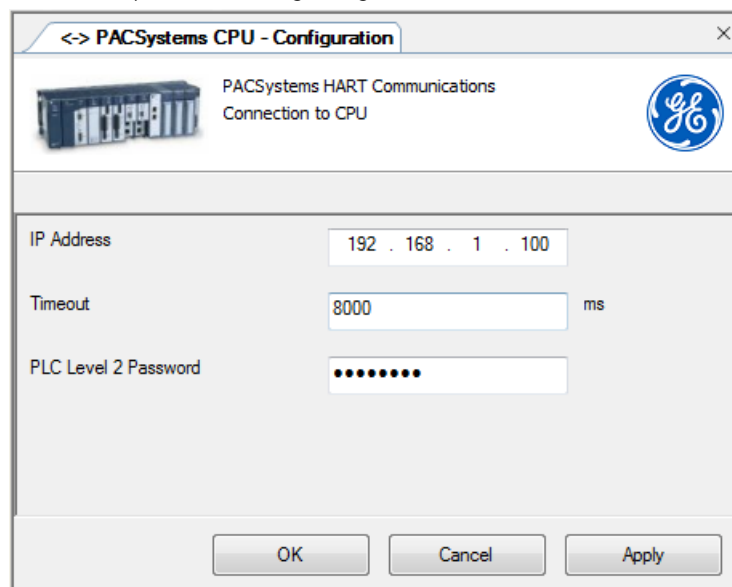

Figure 7: Configuring HART Communications between PC and PLC
3. Configure the DTM by selecting the instance from the *project*. Initially, it displays with the default name of *tag\_not\_available*. Select *Configuration* or *Parameter* from the *Device* menu. This opens the dialog in Figure 7: